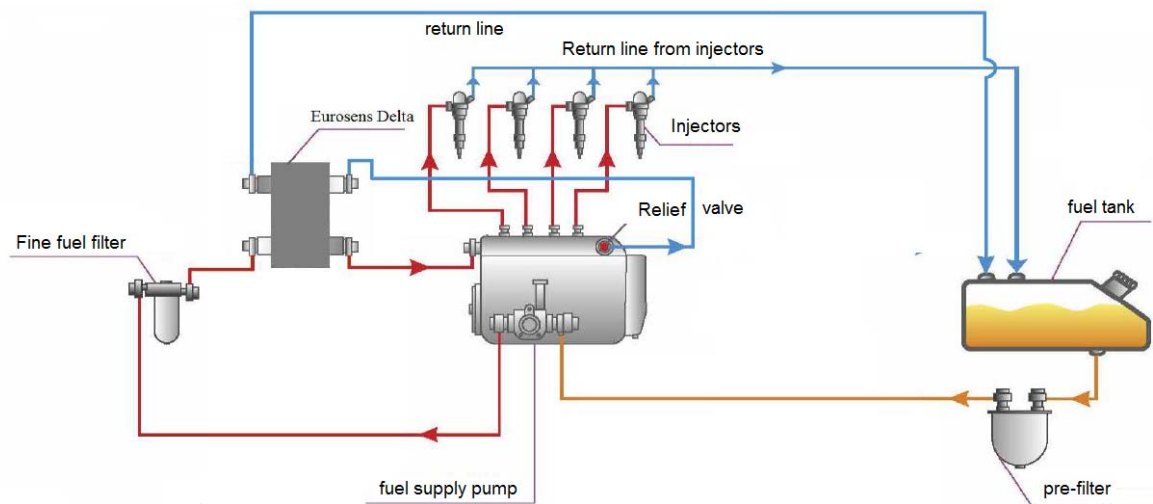

Fig.8. Eurosens Delta installation with supply chamber "on pressure side"
- 1) The supply chamber is installed in the fuel line after supply pump and fine fuel filter (on pressure side). See Fig.8.